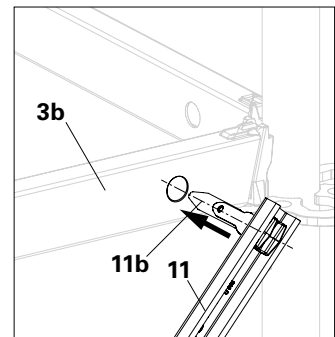

Fig. A2.19d
3. Insert into the hole of the top horizontal ledger (**3b**). (Fig. A2.19d)